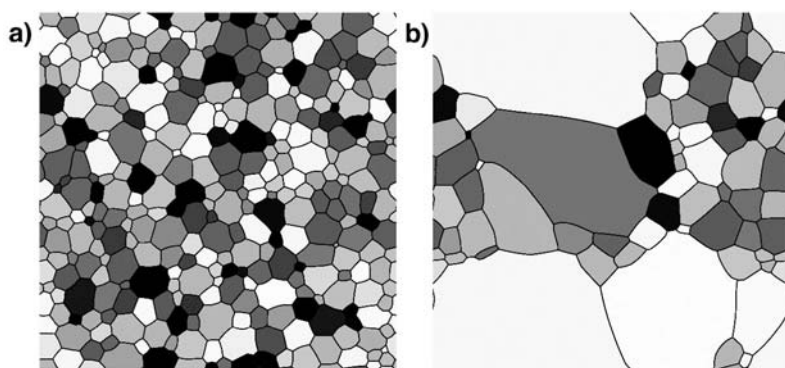

Fig. B20. Experiment C. **(a)** Time step 0, shading reflects lattice orientation **(b)** Time step 200,000
The rate of grain growth in all experiments with a surface energy anisotropy is vastly decreased relative to an identical experiment where surface energies were assumed to be isotropic (A), and experiments with a high boundary energy anisotropy quickly reach an apparently stagnant grain size. After a considerable time in the experiments with higher surface energy anisotropies, a second phase of grain growth commences, dominated by the exaggerated growth of just one or two grains (Fig. B20).